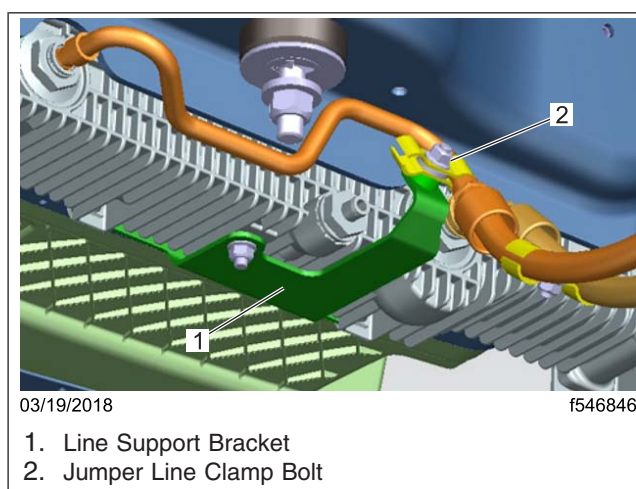

Fig. 7, ITOC Assembly with Jumper Line Clamp Installed
4. Install the jumper line clamps, spacers, and nuts and finger tighten. See Fig. 7.